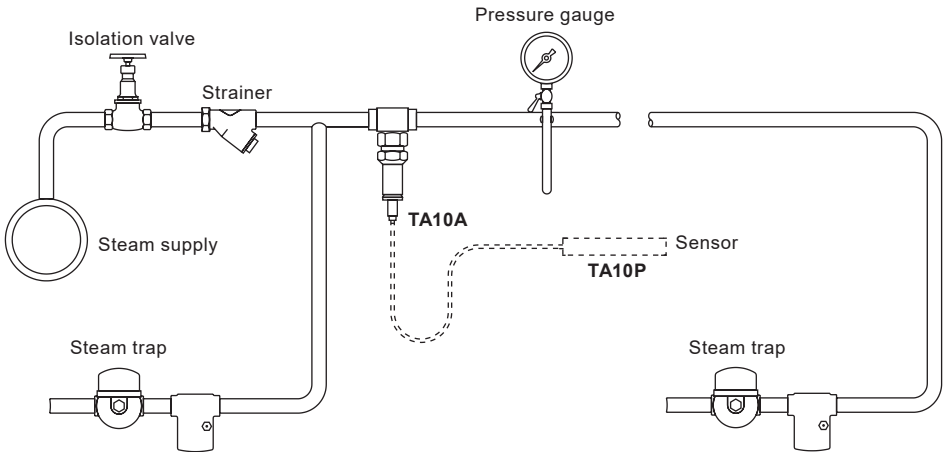

Fig. 2 Typical application
- 3.1** Ensure all pipework is cleaned out before installing the valve. It is recommended that a strainer is fitted before the valve (see Figure 2).
- 3.5** Ensure all pipework is cleaned out before installing the valve. It is recommended that a strainer is fitted before the valve (see Figure 2).